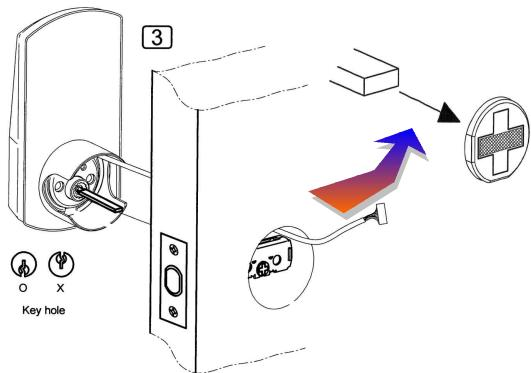

Figure 3
**Note:** Cable must go **under** the bolt and through. **Ensure that the tailpiece is oriented correctly.** (See Fig. 3)